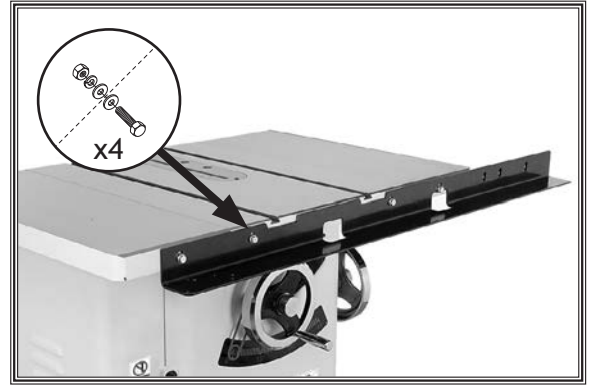

Figure 18. Front rail installed (W1819).
10. Install the front rail onto the table and extension wings with four M8-1.25 x 40 hex bolts, eight 8mm flat washers, four 8mm lock washers, and four M8-1.25 hex nuts, as shown in **Figure 18**.